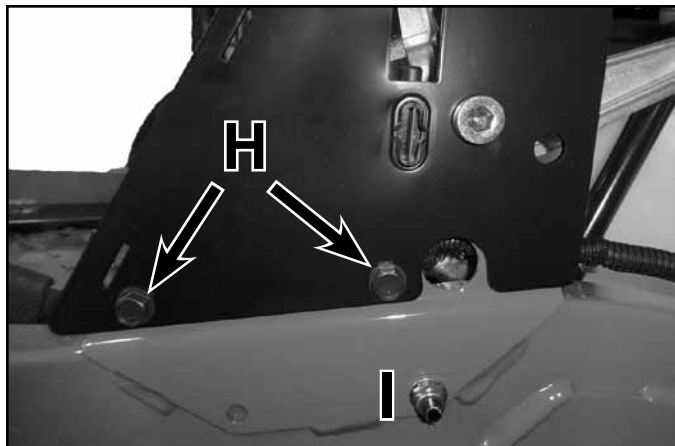

Fig. 027
2. Install the (6) fasteners securing the control box assembly (G) to the frame and torque to specification:
- (H) Bolts - 7 ft-lbs. (10 Nm)
- (I) Carriage Bolt Fasteners - 14 ft-lbs. (18 Nm)(Fig. 027)